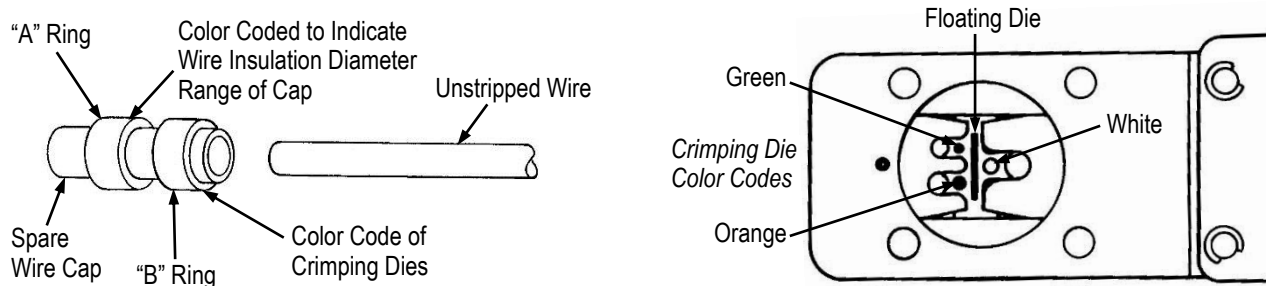

Figure 1
The tool features three crimping areas, tool handles, and a CERTI-CRIMP\* hand crimping tool ratchet control. Tool dies and spare wire cap rings are color coded for a given wire insulation diameter range. Crimp the color coded ring ("B") in the matching color coded dies. See Figures 1 and 2. Example: If insulation diameter of wire is within a range of 1.422 to 1.63 mm [.056 -.064 in.], use ring "A".
- Wire insulation diameter is within range of color coded (Ring "A") cap. See Figure 1.
- Wire insulation diameter is not within range of color coded (Ring "A") cap. See Figure 1.
- Excessive flash or cracked ring. Wire insulation diameter too large (see Figure 1) or damaged dies.